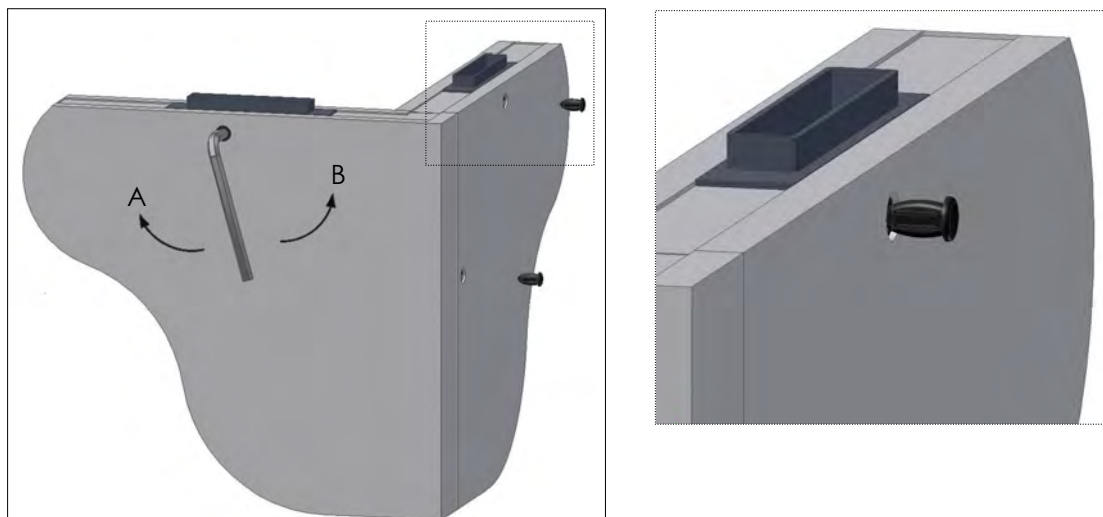

Fig. 11
- Turn the screwdriver like the hands of a clock till it stops. (Fig.11 – Position **A**);
- Turn the screwdriver on the other sense fill it fastens. (Fig.11 – Position **B**)
- After fastening, insert the **screw caps** in the holes (Fig. 11).